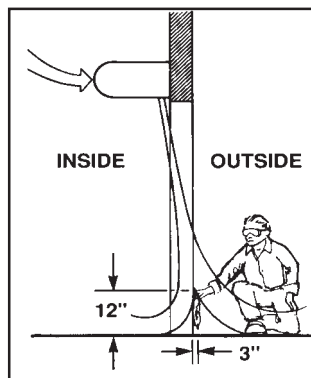

Figure 9
2. Find the air stream split location. Hold a handkerchief, by its corners, approximately 12" above the floor. Gently move the handkerchief back and forth in the doorway. Make sure the air is being directed to both the inside and the outside. **See Figure 9.** The split location is indicated where the handkerchief is vertical with minimal or no fluttering.